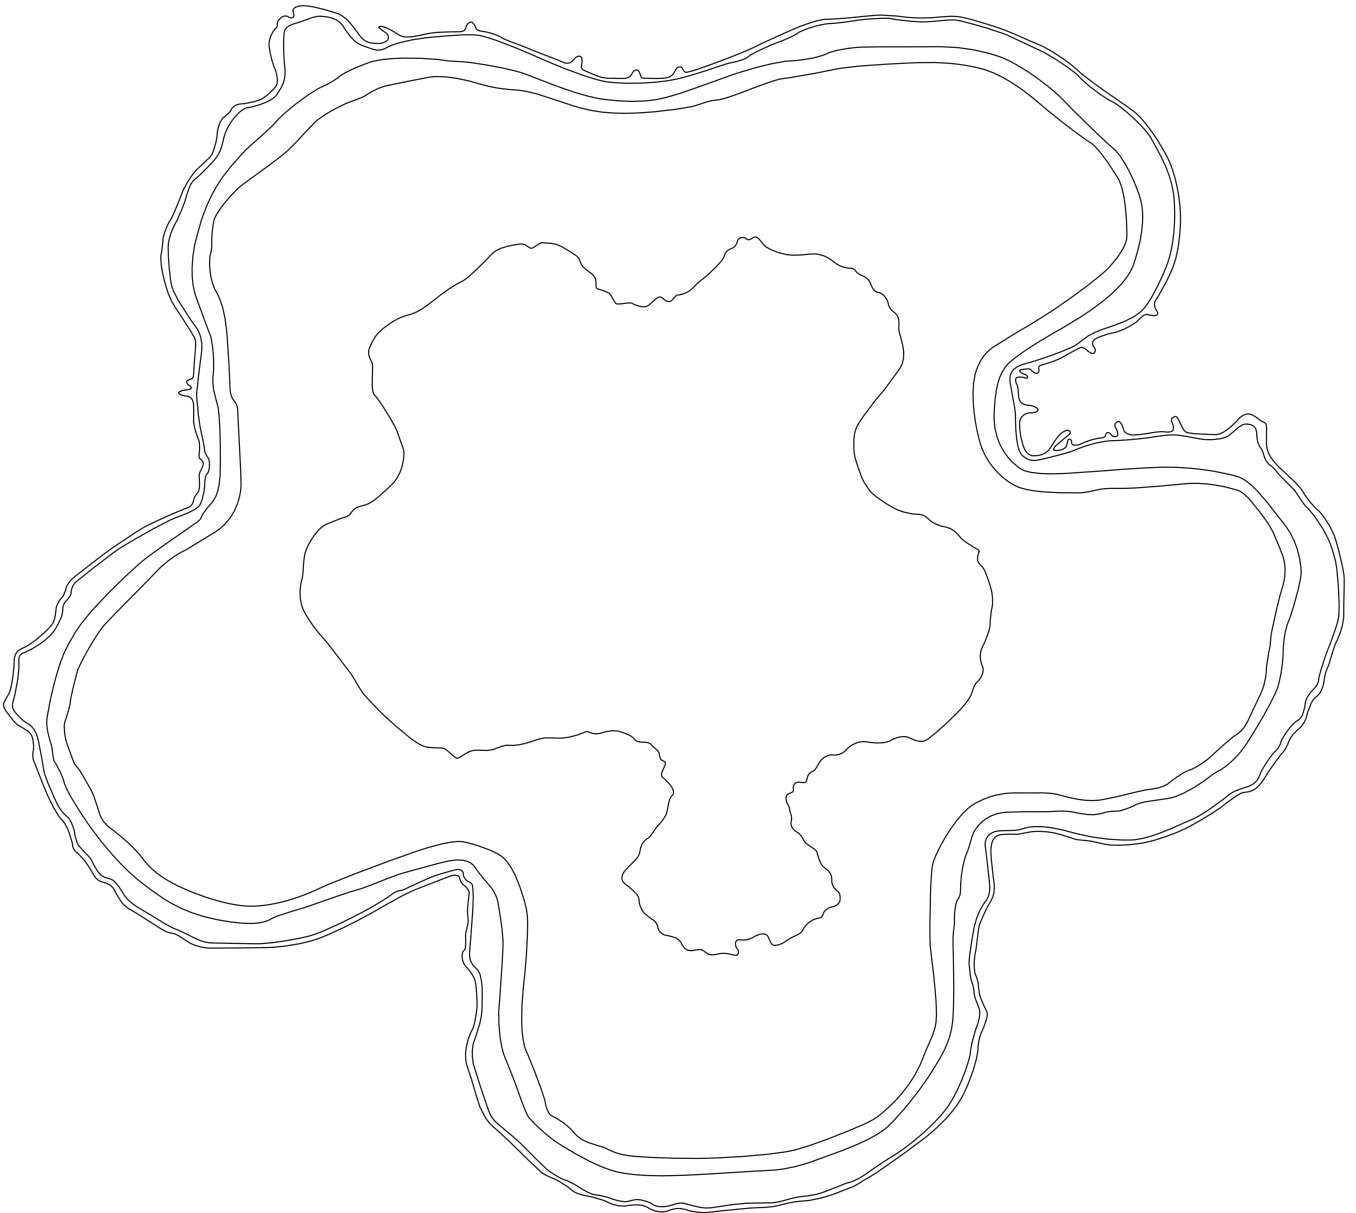

Fig. 2.1
(a) Fig. 2.1 shows an outline of a transverse section of *C. pepo*.
- (i) On Fig. 2.1 draw the outline of **one** vascular bundle.
On Fig. 2.1, draw and label regions within the vascular bundle to show the distribution of xylem and phloem.